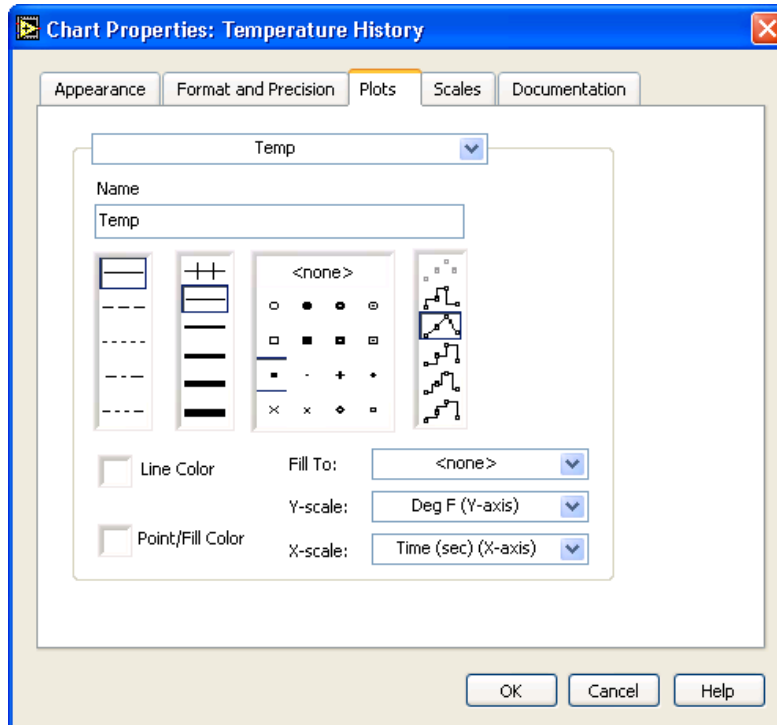

Figure 7.7
- c. Click the **Plots** tab and select different styles for the y-axis, as shown in Figure 7.7.